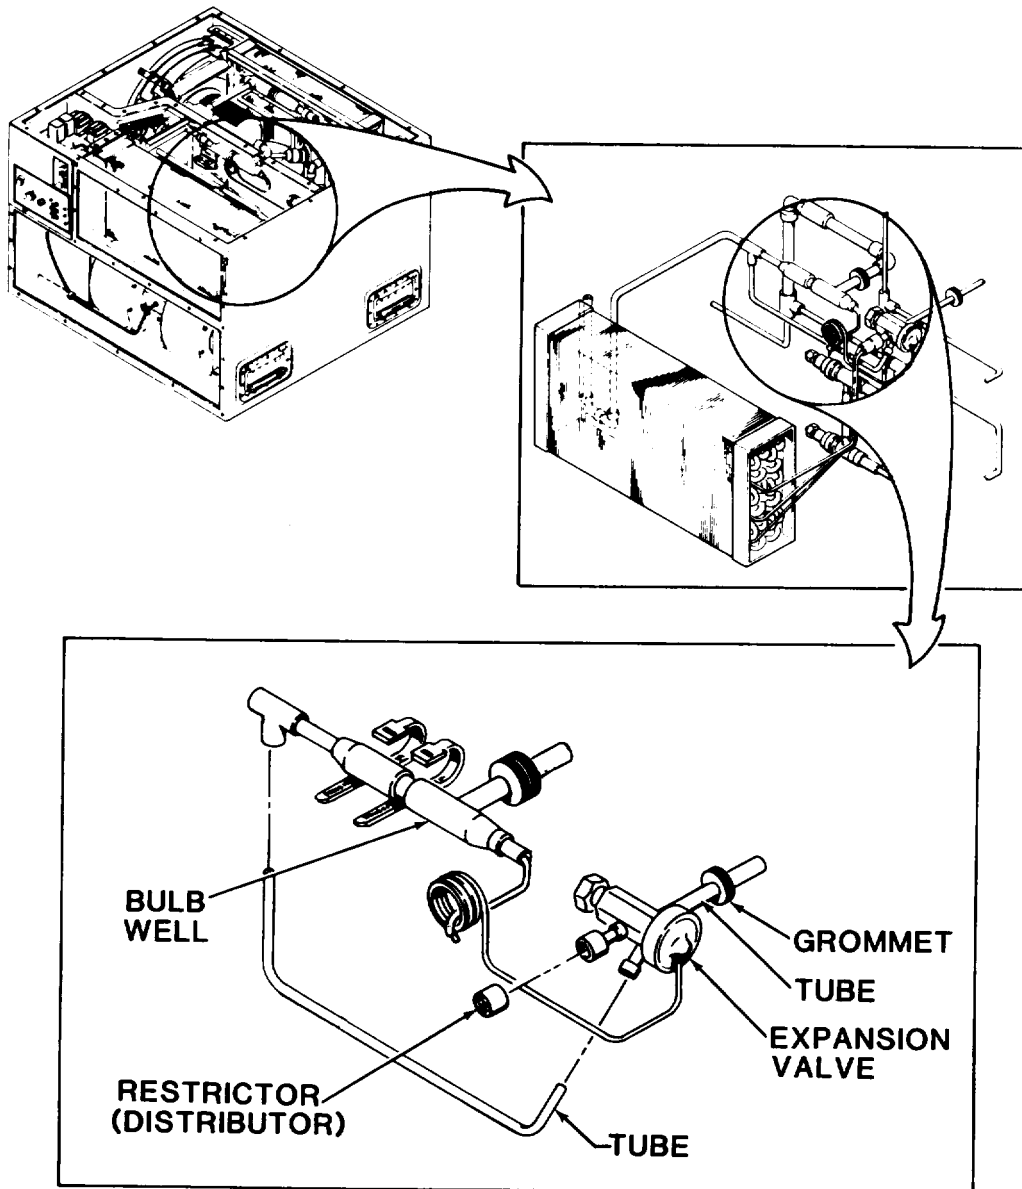

Figure 5-10. Expansion Valve (Primary)
a. Removal. (See fig. 5-10.)
(1) Disconnect power at power source.
(3) Discharge and purge refrigeration system per paragraphs 5-11 and 5-12.
(4) Unwrap insulation from joints of expansion valve.
(5) Soften thermal mastic in the bulb well using a cloth wrung out in hot water, a heat lamp, or heat gun if necessary and withdraw bulb from bulb well.
(6) Debraze two tube connections and restrictor connection to valve.
(7) Remove valve from unit.